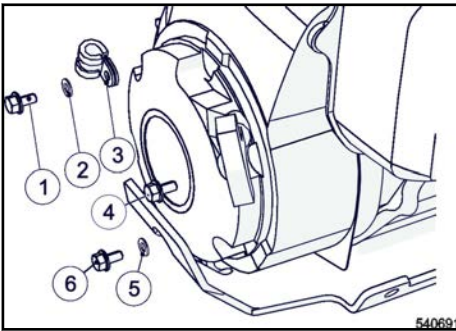

Fig. 52
Unscrew the fastening screws (1), (4) and (6) ↪ Fig. 52 and take off the recoil starter.